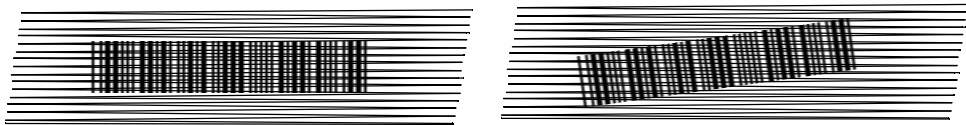

**Figure 3-2. Aiming Patterns on 1-D and 2-D Bar Codes**
- ◆ Center the aiming pattern on the bar code, as in Figure 3-2.